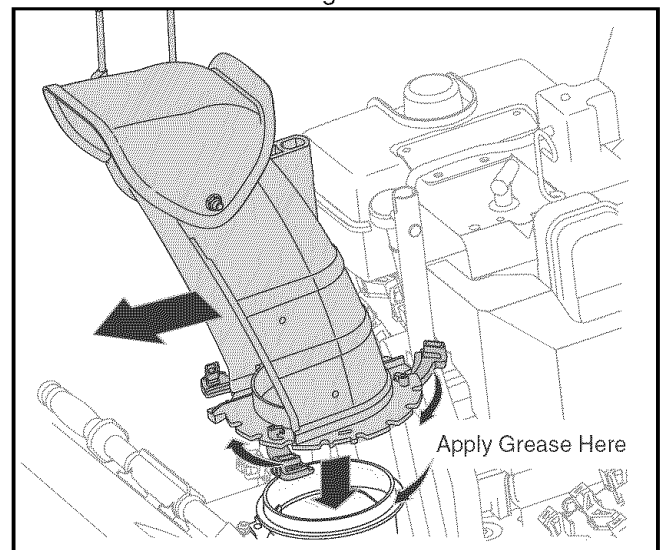

Figure 3
5. Make sure that the flange keepers are opened. Position the chute assembly (forward-facing) over the chute base. See Figure 3.